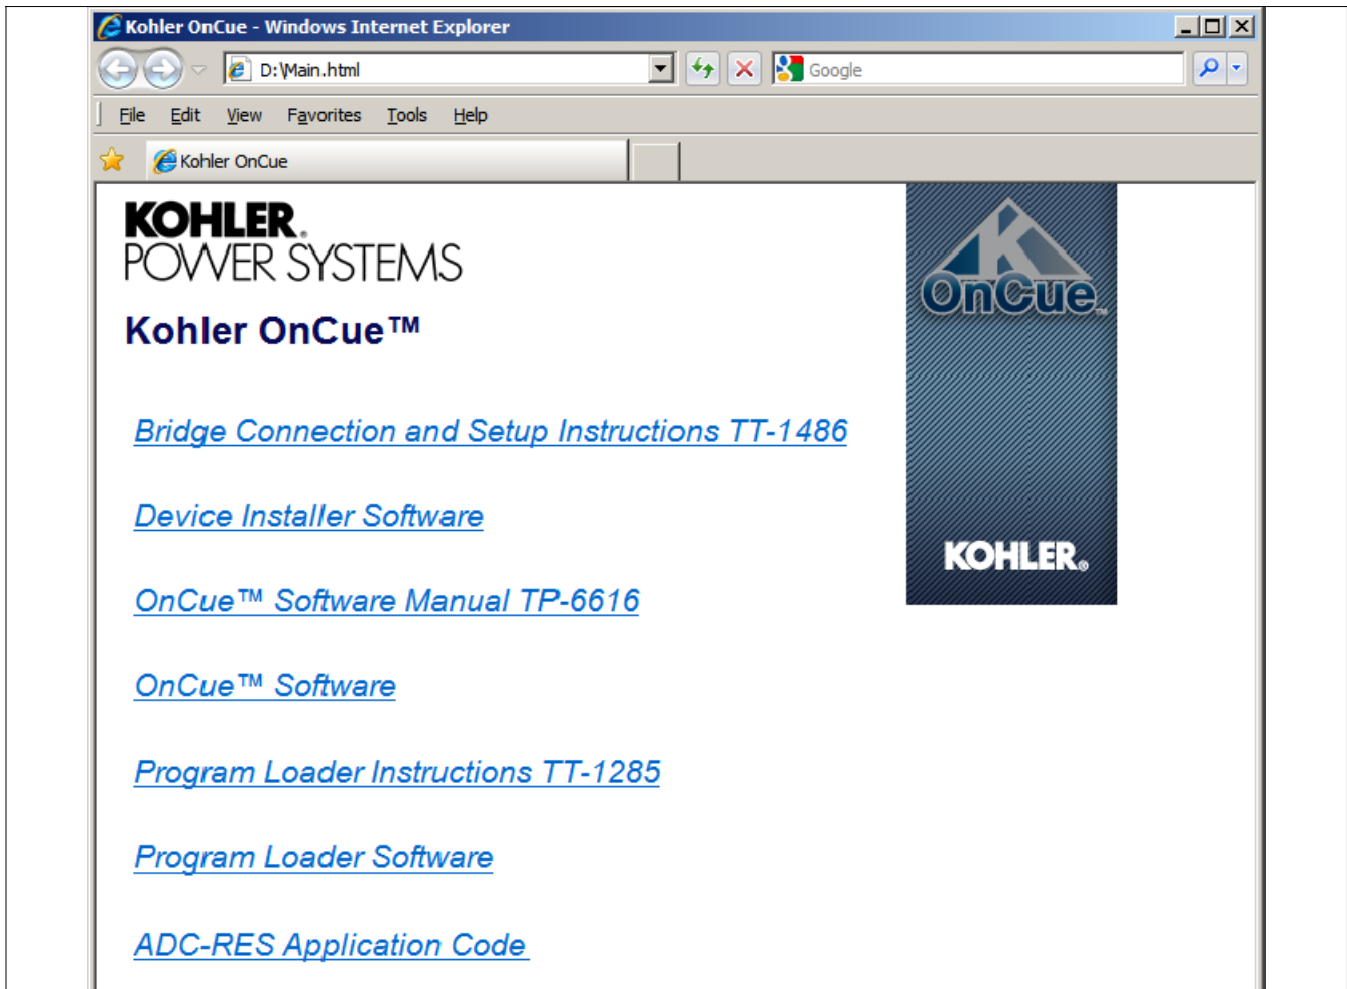

Figure 1-1 CD Opening Screen
1. Insert the software CD-ROM into your PC's disk drive and allow it to start. The opening screen will appear. See Figure 1-1.